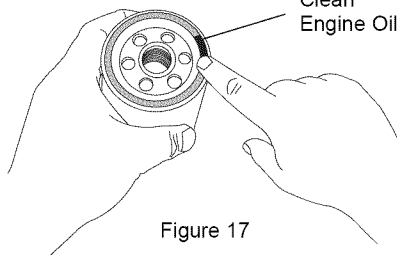

Figure 17
4. Coat a film of clean engine oil on the seal of the new filter, see figure 17.